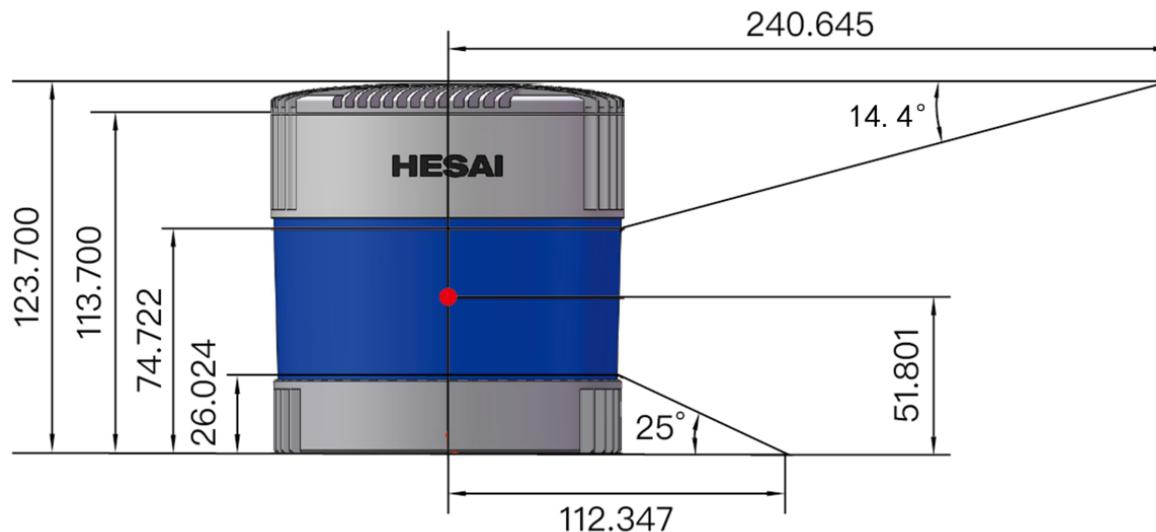

Figure 5. Laser firing position (unit: mm)
- The origin's exact position is shown as a red dot in Figure 5. All measurements are relative to the origin.